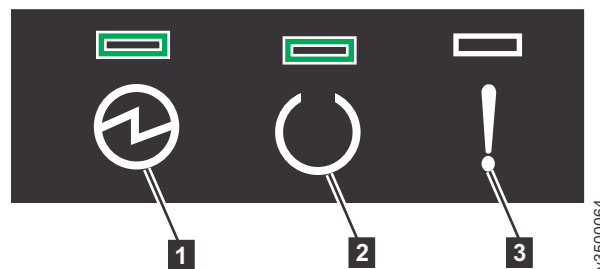

Figure 42. Expansion canister LEDs
2. Check the LEDs on each expansion canister, as displayed in Figure 42.